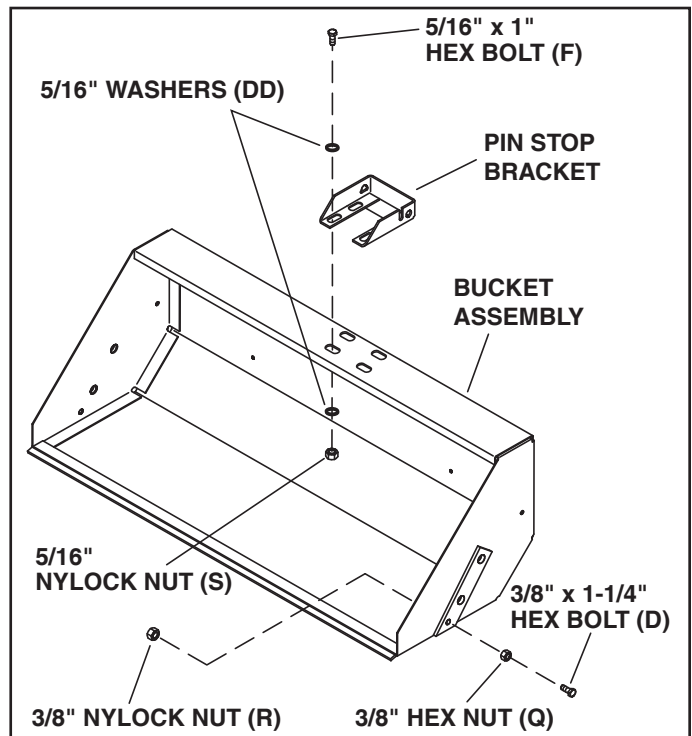

FIGURE 1
STEP 1: INSTALL TWO BOLTS (SEE FIGURE 1)
- Assemble two 3/8" x 1-1/4" hex bolts (D) and 3/8" hex nuts (Q), threading the nut all the way onto the bolt until it is tight against the head of the bolt.
- Install a nut/bolt assembly into the bucket assembly and fasten using a 3/8" nylock nut (R). **Tighten.** Repeat for the other side.
STEP 2: INSTALL PIN STOP BRACKET (SEE FIGURE 1)
- Install the pin stop bracket to the top of the bucket assembly using four 5/16" x 1" hex bolts (F), eight 5/16" washers (DD) and four 5/16" nylock nuts (S). Leave the bolts loose enough that the position of the pin stop bracket can be adjusted later.